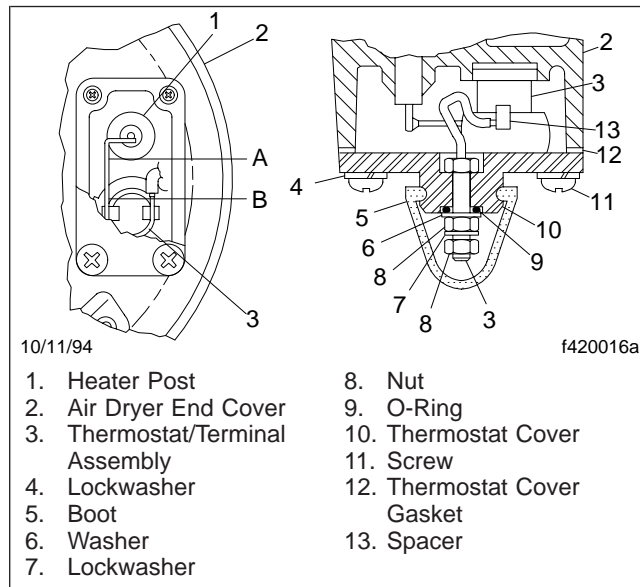

Fig. 9, Air Dryer Thermostat Assembly
- Using an ohmmeter, check resistance between the electrical terminal and the metal end cover. See **Fig. 9**. Resistance should be 2.0 to 4.0 ohms for a 12-volt/60-watt end cover, and 4.0 to 7.0 ohms for a 24-volt/120-watt end cover.
- With the ignition or engine control switch off, remove the thermostat cover. See **Fig. 9**. Using an ohmmeter, check resistance between the metal end cover and the heater post. For a 12-volt/60-watt end cover, resistance should be 2.0 to 2.8 ohms, and for a 24-volt/120-watt end cover, resistance should be 4.0 to 4.6 ohms. If the heater resistance is outside stated limits, install a new or remanufactured end cover.
- Install the thermostat cover (Ref. 10) as shown in **Fig. 9**; be sure the rubber spacer and gasket are correctly installed.